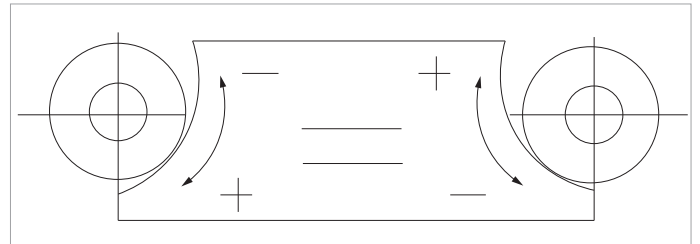

Fig. 4.4 Adjusting the limit switch
- Use the limit-adjusting pole to set the limit position according to the motor's direction. "+" means increasing the hose's moving space, "-" means reducing the hose's moving space. Refer to fig. 4.4 below.